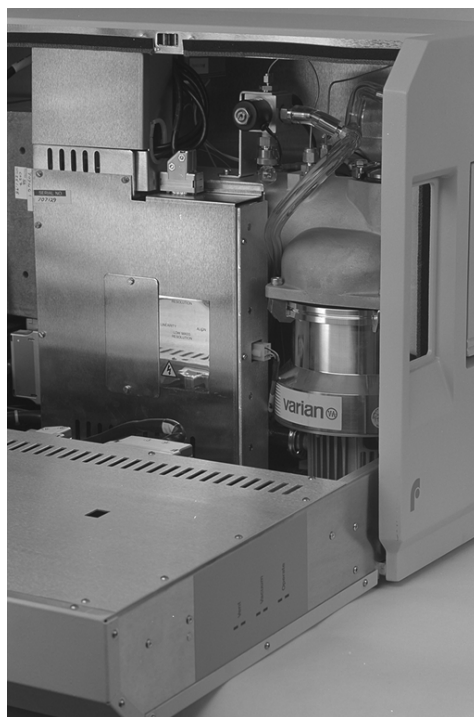

Figure 4-3. Opening the TRACE MS
5. Undo the transit bolt at the back of the digital electronics unit and lower the unit carefully until it rests on the bench (see Figure 4-3).